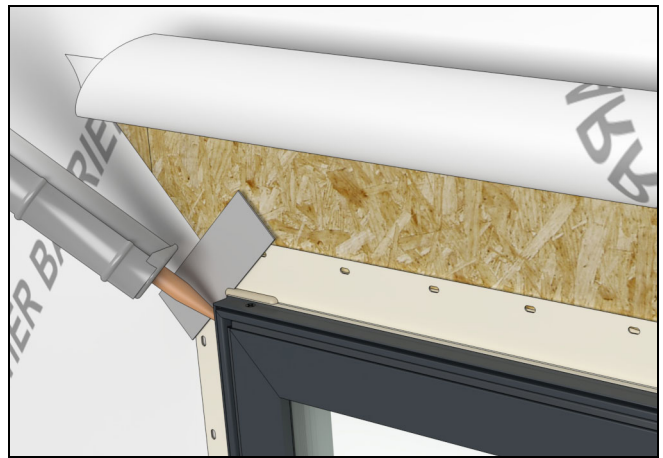

Figure 61
3. Apply a bead of sealant between the corner flashing and the window exterior. Tool the sealant out. See Figure 61.